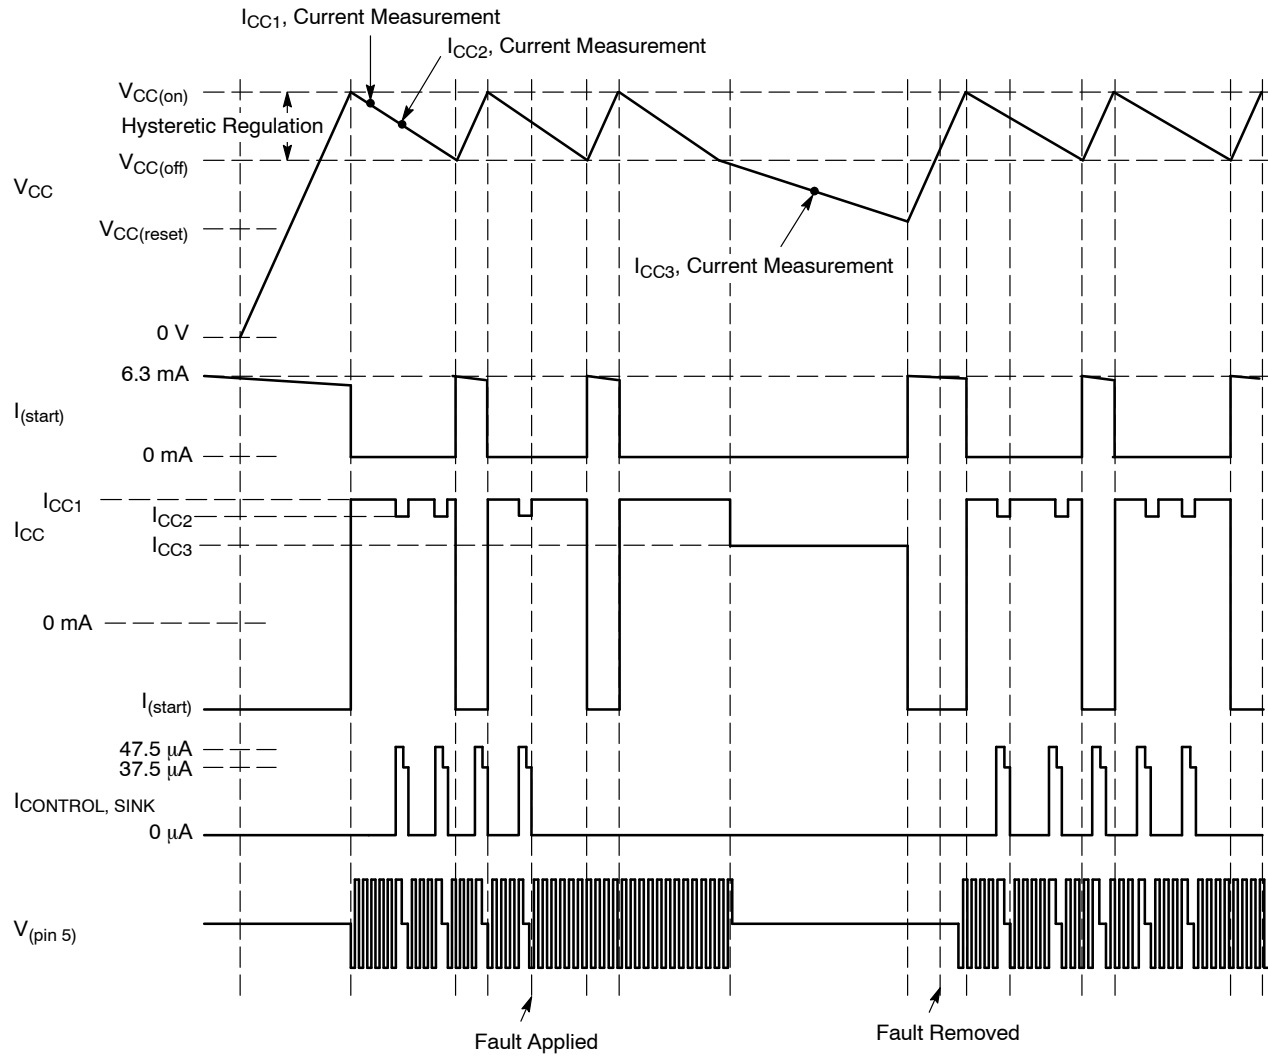

Figure 4. Non-Latching Fault Condition Timing Diagram
8. See Non-Latching Fault Condition Timing Diagram in Figure 4.